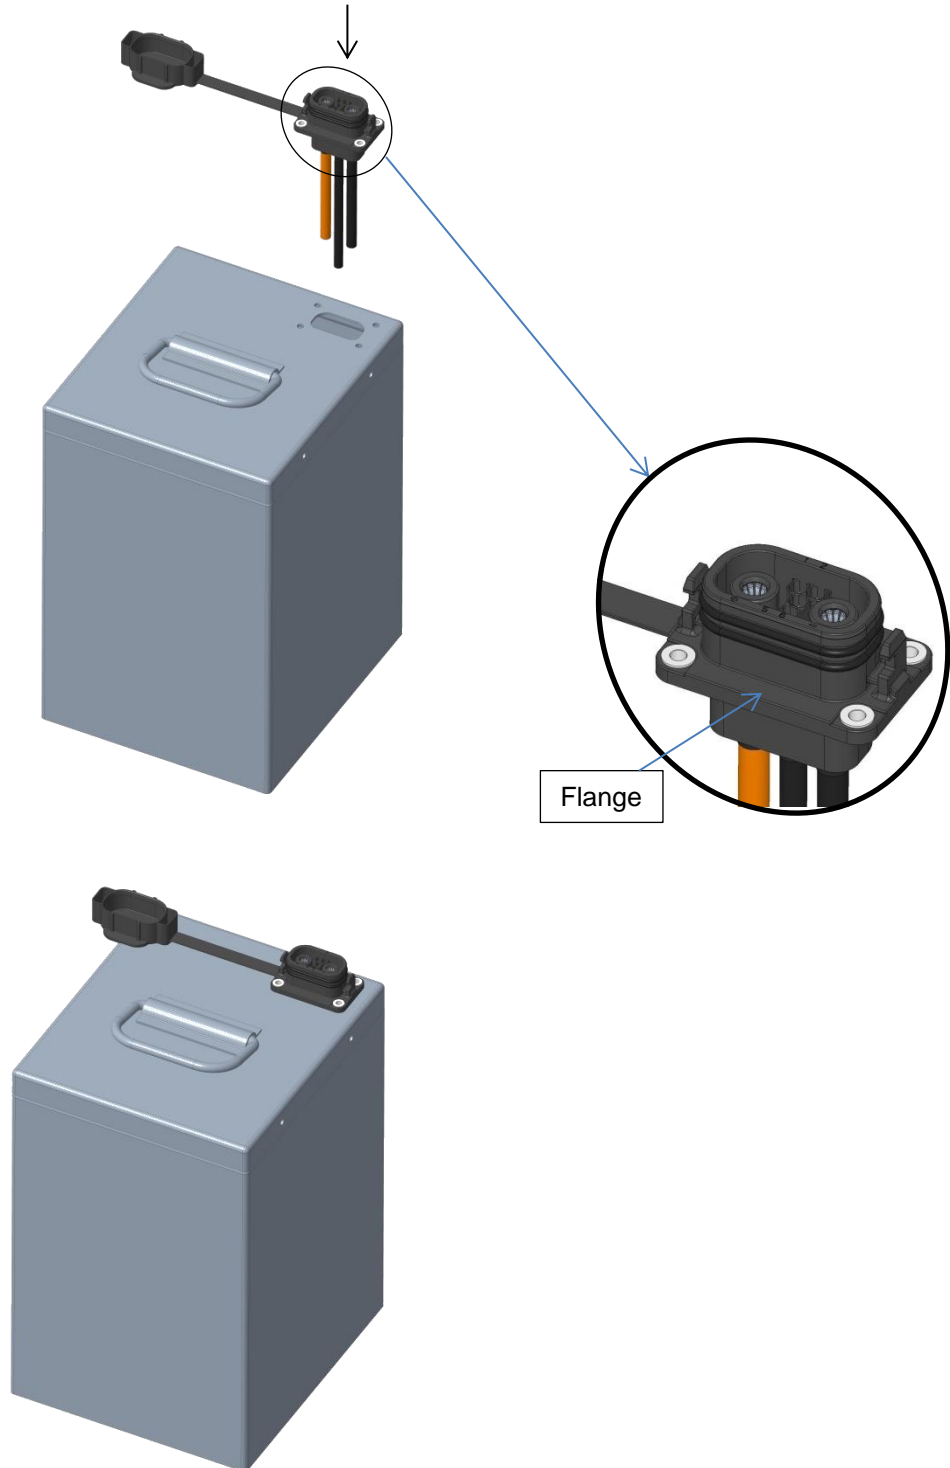

Figure 7
5.1.3 Place the socket onto the battery's top cover/vehicle panel by handling the flange only (Fig.7)